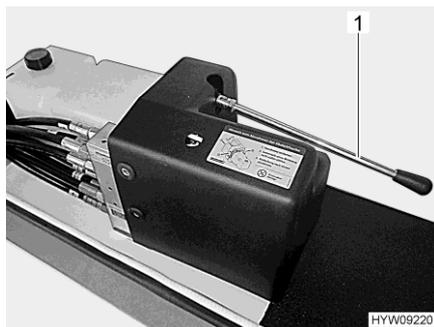

Fig. 45 Lever (emergency release)
- Retract the steady leg with the hand pump. To do this, pump with the lever (Fig. 45,1) until the steady leg is retracted.